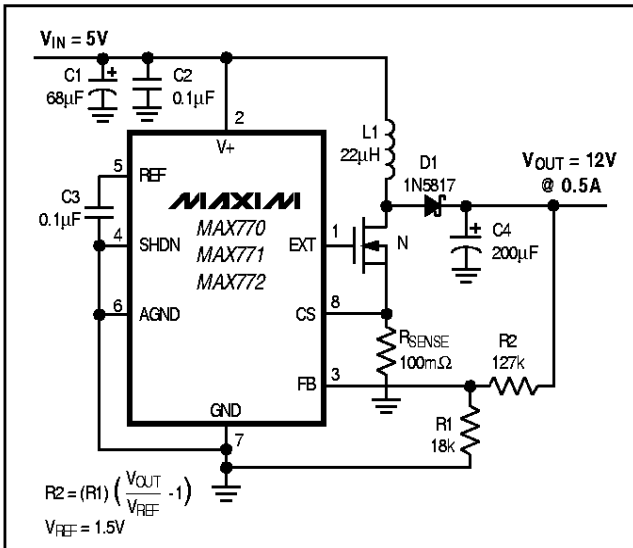

Figure 2c. 12V Output, Non-Bootstrapped
**Note:** When using the MAX770/MAX771/MAX772 in non-bootstrapped mode, there is no preset output operation because  $V_+$  is also the output voltage sense point for fixed-output operation. External resistors must be used to set the output voltage. Use 1% external feedback resistors when operating in adjustable-output mode (Figures 2c, 2d, 3b, 3d, 3e) to achieve an overall output voltage accuracy of  $\pm 5\%$ . The MAX773 can be operated in non-bootstrapped mode without using external feedback resistors because  $V_+$  does not act as the output voltage sense point with preset-output operation. To achieve highest efficiency, operate in bootstrapped mode whenever possible.